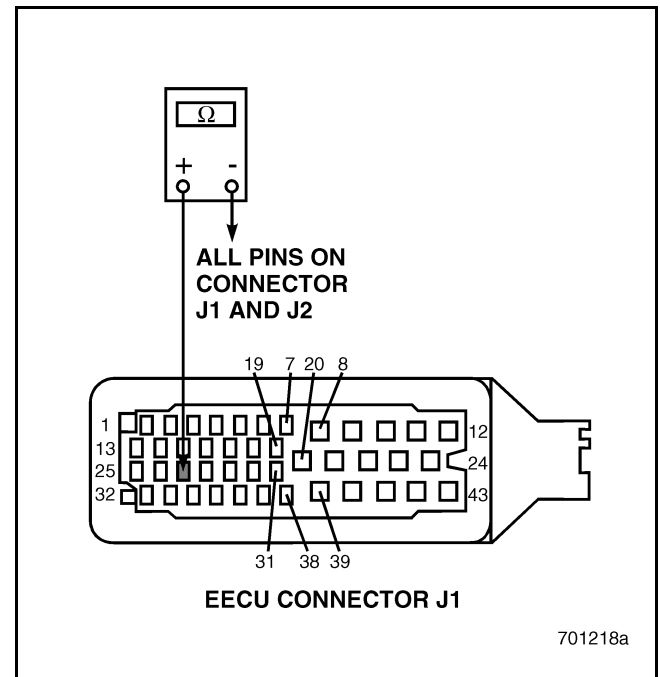

Figure 206
4. Check for continuity between EECU harness connector J1 pin 27 and all other pins on EECU connectors J1 and J2 (see Figure 206).